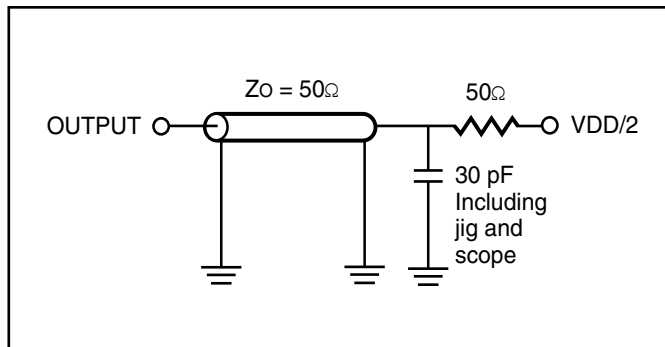

Figure 1.
1. Test conditions and output loading conditions are specified in the AC Test Conditions and AC Test Loads (Figure 1).